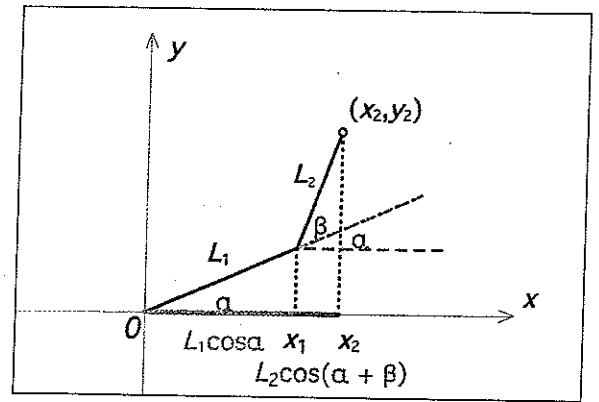

Fig. 4 Trigonometry provides a means to express the coordinates  $(x_2, y_2)$ .
4. You first need to express  $(x_2, y_2)$  in terms of  $L_1$ ,  $L_2$ ,  $\alpha$ , and  $\beta$ . This can be done using the relationship shown in figure 4. To solve for  $x_2$ , you need to calculate it in steps.
- a. using figure 4, solve for  $\cos\alpha$ .
- d. Solve for  $x_2$ . We will call this equation (1).
5. There is a similar relationship for the y coordinates, only now we use the sine function. Solve for  $y_2$ . We will call this equation (2). Express the coordinates of the point  $(x_2, y_2)$  in terms of  $L_1$ ,  $L_2$ ,  $\alpha$ , and  $\beta$ .